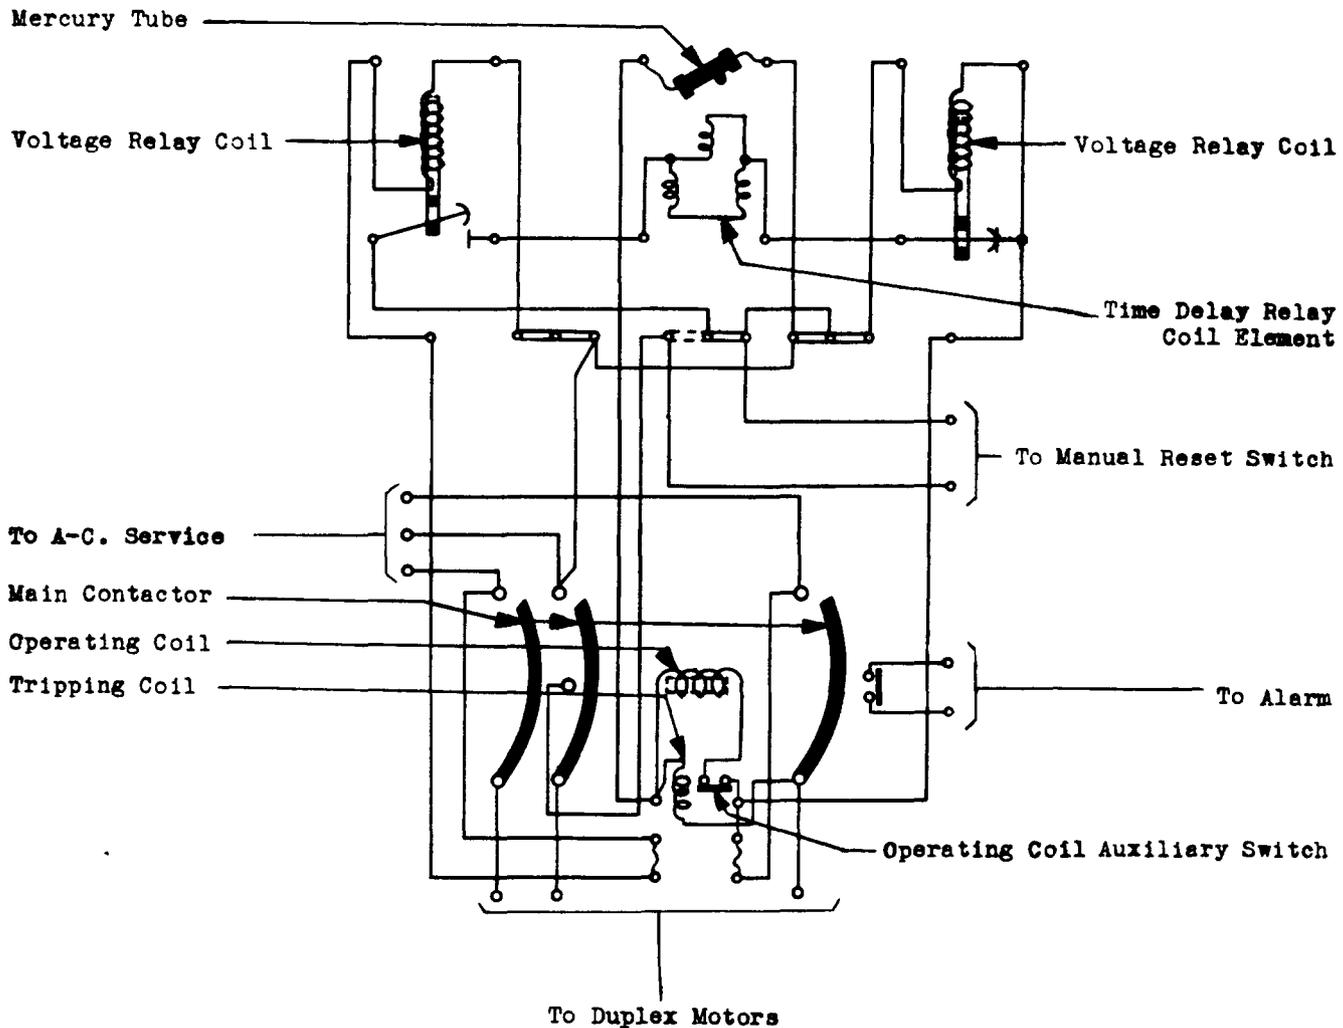

Fig. 2 - Circuit Schematic (Shown Without Transformers and Arranged for Manual Reclosing)
1.05 The master switch automatically disconnects the a-c. supply from the duplex motors when the voltage is too high or too low and reconnects the supply when the voltage is within the proper range. The coil of each voltage relay is connected across one phase of the power service, either directly or through a transformer, while the relay contacts are in series with the time delay relay coil and a fuse directly across one phase of the power service. In Fig. 2 the contactor is shown open and the contacts on one voltage relay are open due to overvoltage on one phase. If proper voltage were restored, the voltage relay contacts would close and complete the circuit through the time delay relay element. After a few seconds the mercury tube switch would close and energize the operating